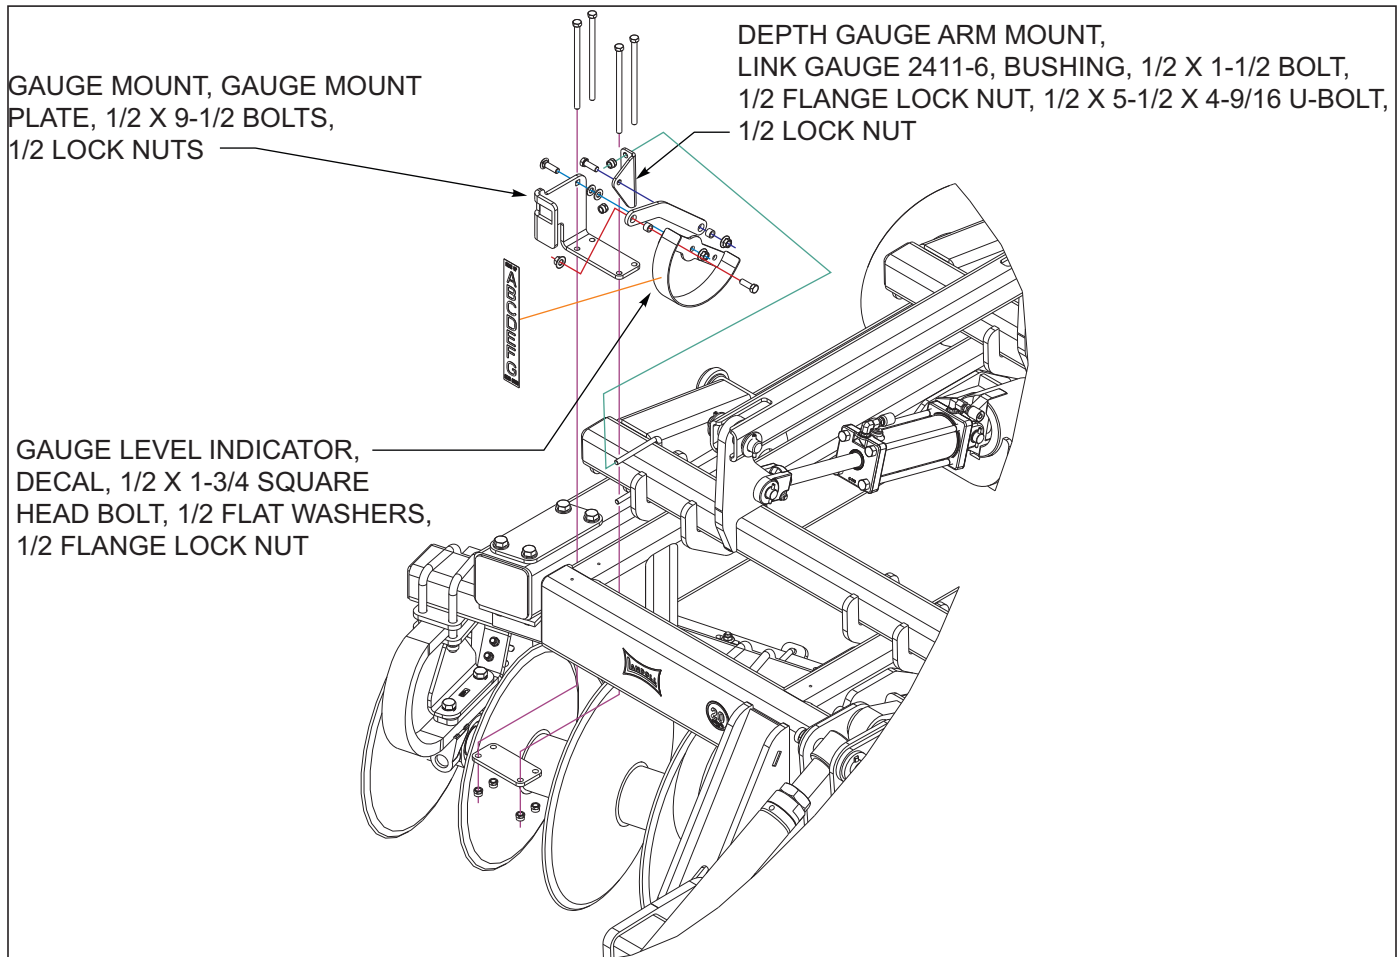

Figure 3-10: Disc Gang Gauge Installation 2411-06
4. Model 2411-06, attach the disc gang gauge to the right front of center frame, *See Figures 3-10*.